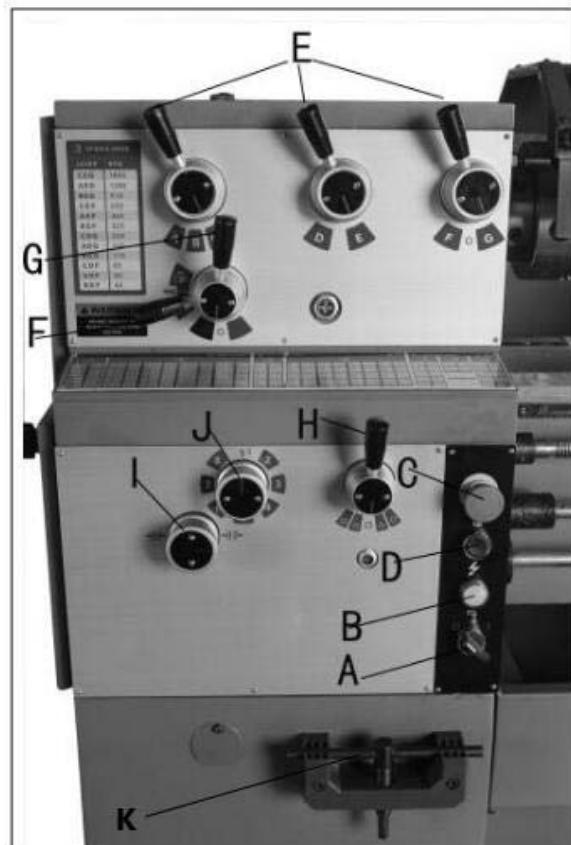

Figure 14
- B. **Power Indicator Light** (B, Fig. 14) – illuminated whenever lathe has power.
Emergency Stop Switch (C, Fig. 14) – press to stop all machine functions.
- C. **Jog Switch** (D, Fig. 14) – Press and release to advance spindle momentarily.
2. **Headstock Gear Change Levers** (E, Fig. 14) – located on front of headstock. Move levers according to speed chart for desired setting.
3. **Leadscrew/Feed Rod Directional Lever** (F, Fig. 14) – located on front of headstock. Moving the lever up causes carriage travel toward the tailstock; moving the lever down causes carriage travel toward the headstock (when chuck is spinning in forward or counterclockwise direction). Do not move lever while machine is running.
4. **Feed/Lead Selector Lever** (G, Fig. 14) – located on the front of the headstock. Used whenever setting up for threading or feeding.